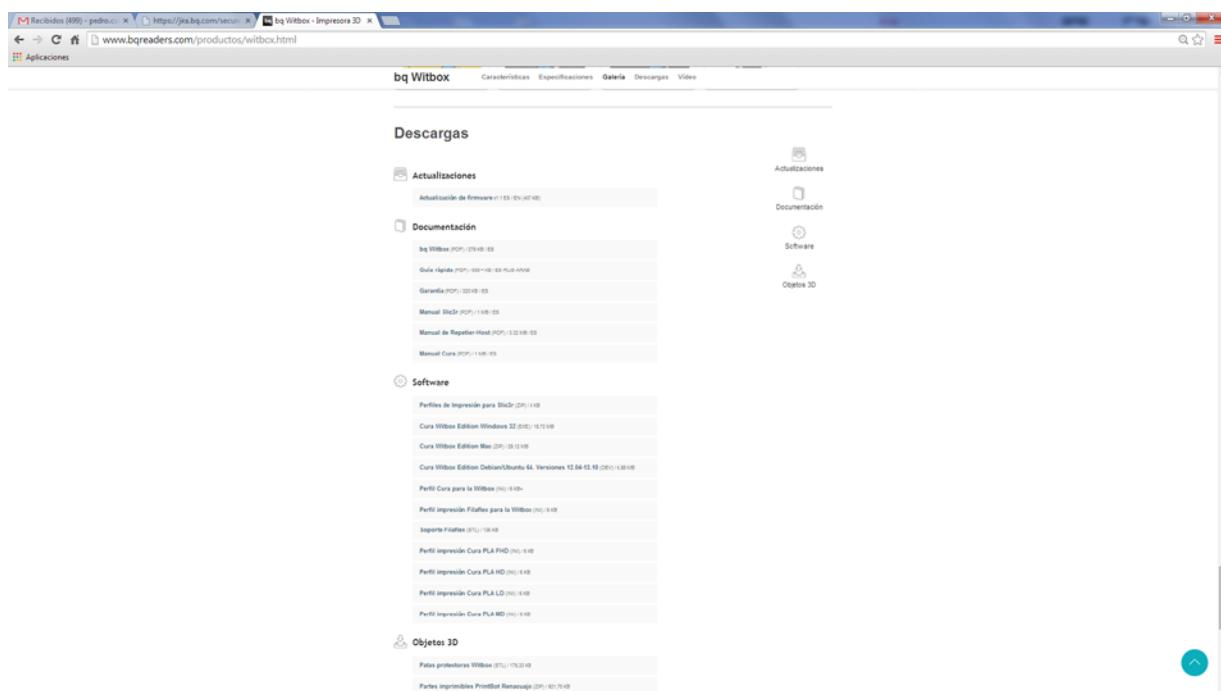

Figure 4.13 Download the firmware from bq's official website
- 1 Download the latest version of the firmware from bq's official website www.bq.com (fig. 4.13). The downloaded file will be in **.hex** format.